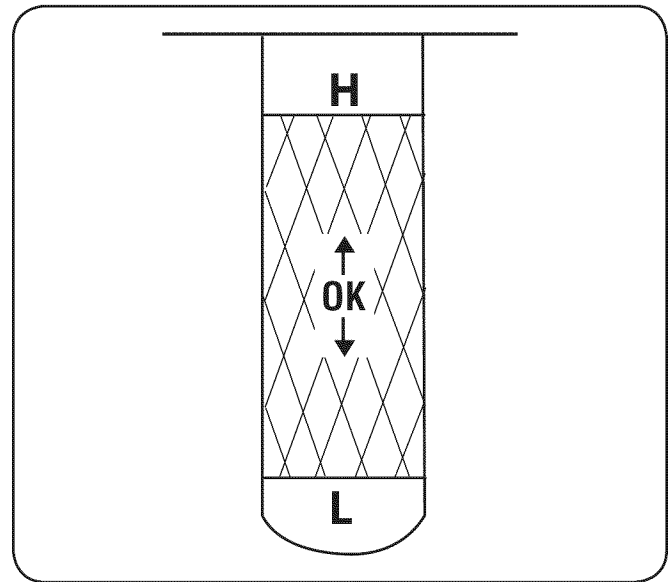

Figure 3-4
3. Slowly add oil until the level registers between high (H) and low (L) Fig. 3-4.